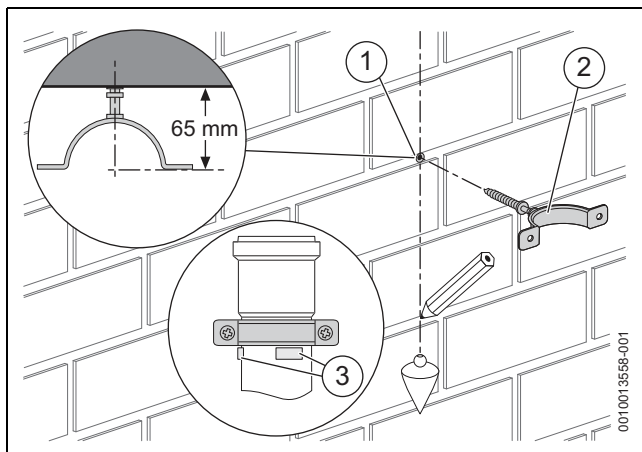

Fig. 54 Support clamp fitting
Support clamp (→ figure 54)
- ▶ Screw in the support clamp into the wall plug to the distance shown in figure 54.